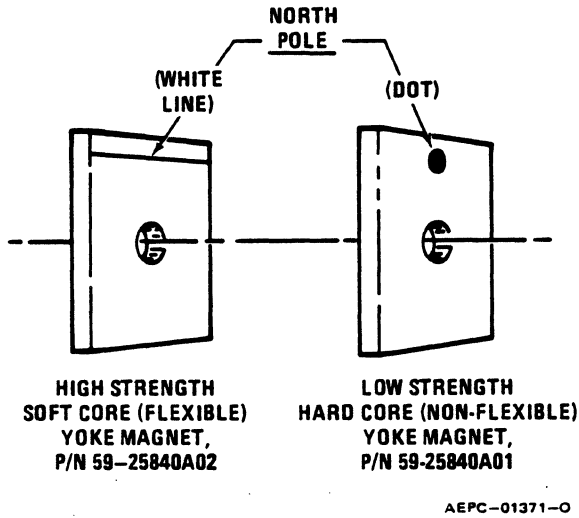

Figure 11. Yoke Magnet North Pole Identification
There are two (2) different strength yoke magnets available for correcting CRT geometry. The soft core (or flexible) magnet is the stronger of the two magnets. (Reference Figure 11 to identify their north poles.) Pincushion and trapezoidal correction generally require high strength magnets, and barrel correction requires a lower strength magnet for correction.